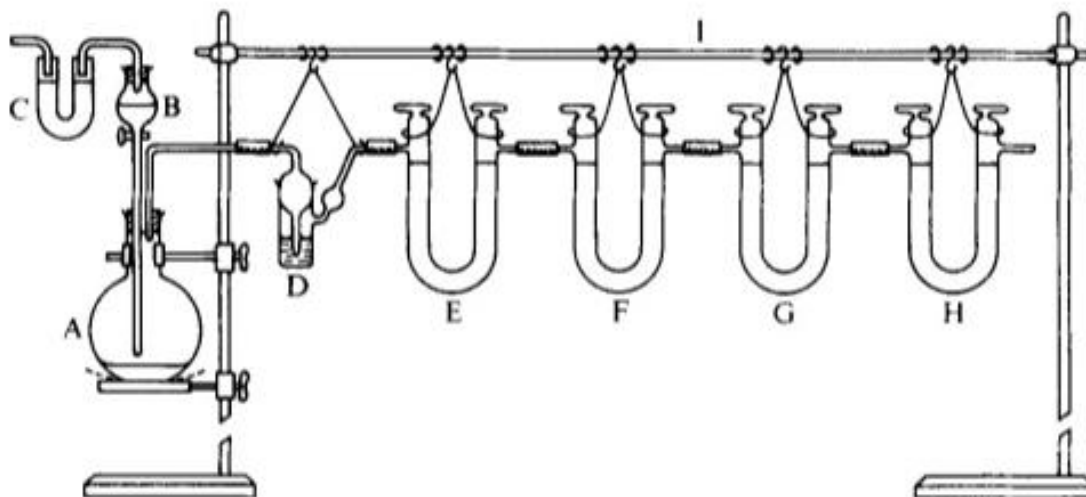

Fig.2. The experimental setup.
- Four U-tubes, a 100 mL flask, a dropping funnel, small U-tube for NaOH -guard, a bubbler, a stand (see Figure 2 below);